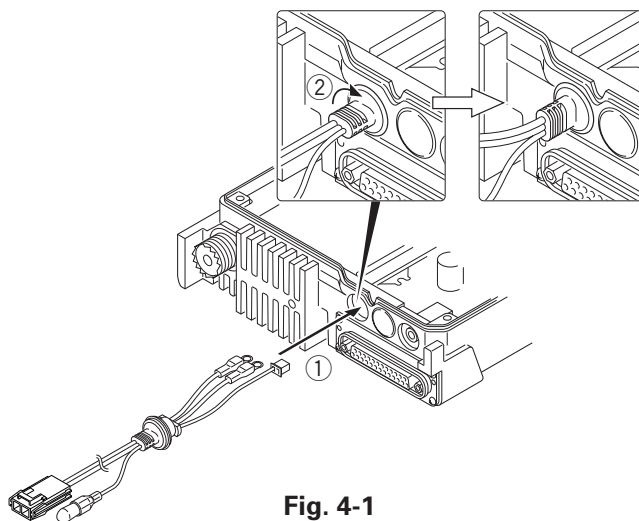
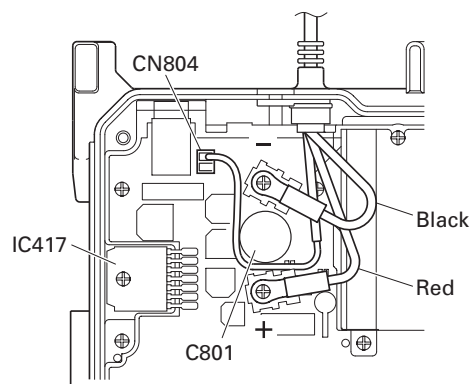

Fig. 4-1
Fig. 4-2
1. Pass the power supply cable through the chassis hole (①) as shown in Figure 4-1 and insert the bush into the chassis hole.
2. Rotate the bush of the power supply cable 90 degrees clockwise as viewed from the rear of the chassis. (②)
4. Align the + (positive) terminal of the power supply cable (red) as shown in Figure 4-2 and fix it to the terminal strip with a screw.
5. Align the - (negative) terminal of the power supply cable (black) as shown in Figure 4-2 and fix it to the terminal strip with a screw.